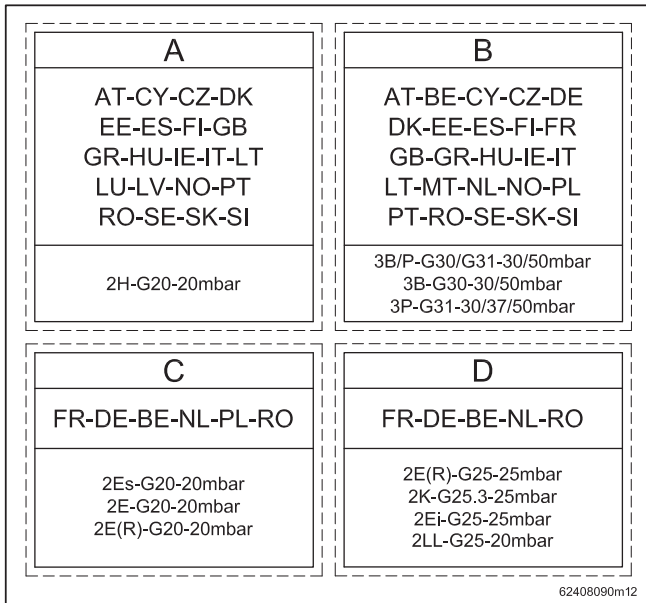

Figure 16-7 – Labels certifying the new boiler status
- 18 - apply the adhesive data plate (see figure 16-7) to the right-hand side of the boiler, in place of the label that identified the old setting status, to certify the boiler's new setting status, as follows: apply label "B" if the boiler has been converted from methane to LPG; apply label "A" if the boiler has been converted from LPG to methane.
- 8.- apply the adhesive data plate (see figure 16-7) to the right-hand side of the boiler, in place of the label that identified the old setting status, to certify the boiler's new setting status, as follows: apply label "B" if the boiler has been converted to G31; apply label "A" if the boiler has been converted to G20.